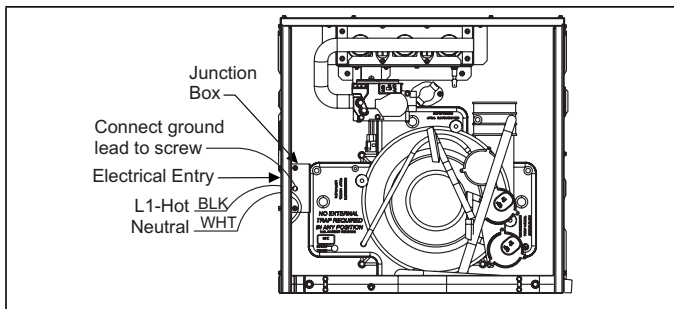

FIGURE 17: Electrical Wiring
2. Remove the wiring box cover screws. Route all power wiring through a conduit connector or other proper bushing that is field installed into the unit opening and the junction box. In the junction box there is a black wire, a white wire and a green ground screw. Connect the power supply as shown on the unit's wiring label located on the inside of the blower compartment door, or the wiring schematic in this section. Connect the black wire to L1 (hot) from the power supply. Connect the white wire to neutral. Connect the ground wire (installer-supplied) to the green (equipment ground) screw. An alternate wiring method is to use a field-provided 2" (5.1 cm) x 4" (10.2 cm) box and cover on the outside of the furnace. Route the furnace leads into the box using a protective bushing where the wires pass through the furnace panel. After making the wiring connections replace the wiring box cover and screws. Refer to Figure 17.
3. The furnace's control system requires correct polarity of the power supply and a proper ground connection. Refer to Figure 17.